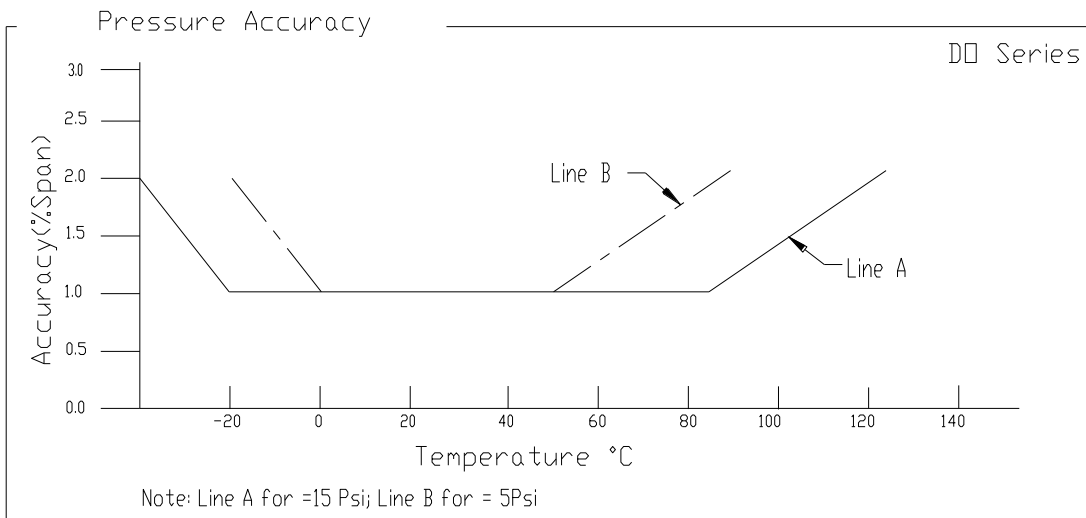

Fig 3
- Measured at vacuum for absolute (A), ambient for gage (G) and sealed gage(S). Output is not ratiometric to supply voltage.
- Total Error Band: includes calibration errors and temperature effects over the compensated range. See Figure 3.